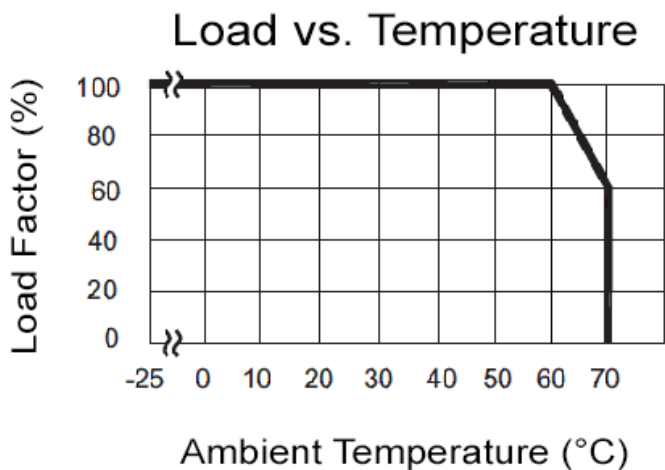

Figure 2. Load vs. Temperature Derating Curve
**Figure 2** shows the output load versus temperature derating for the PWRPAK-16A-5V.